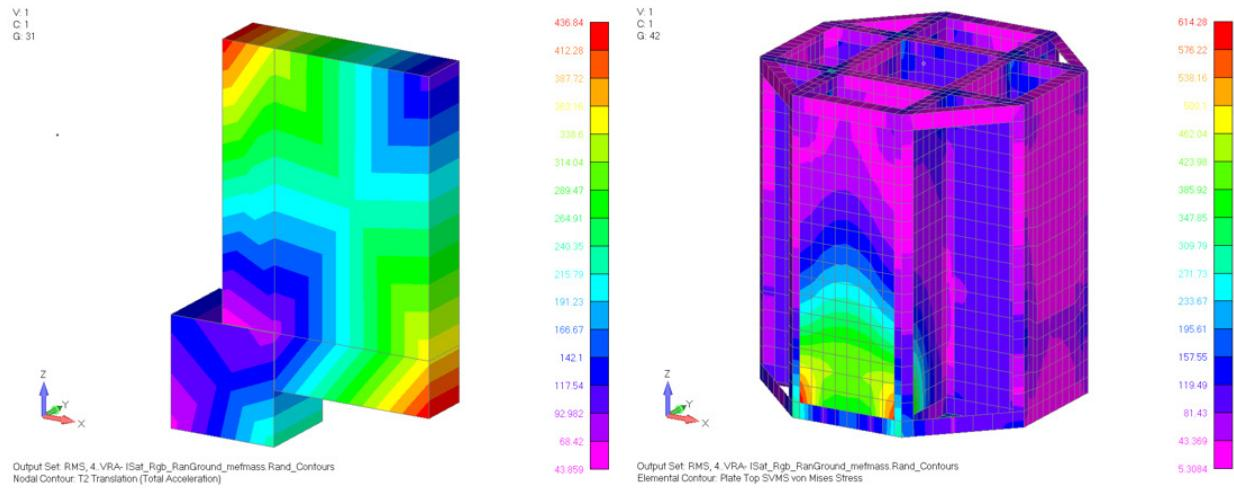
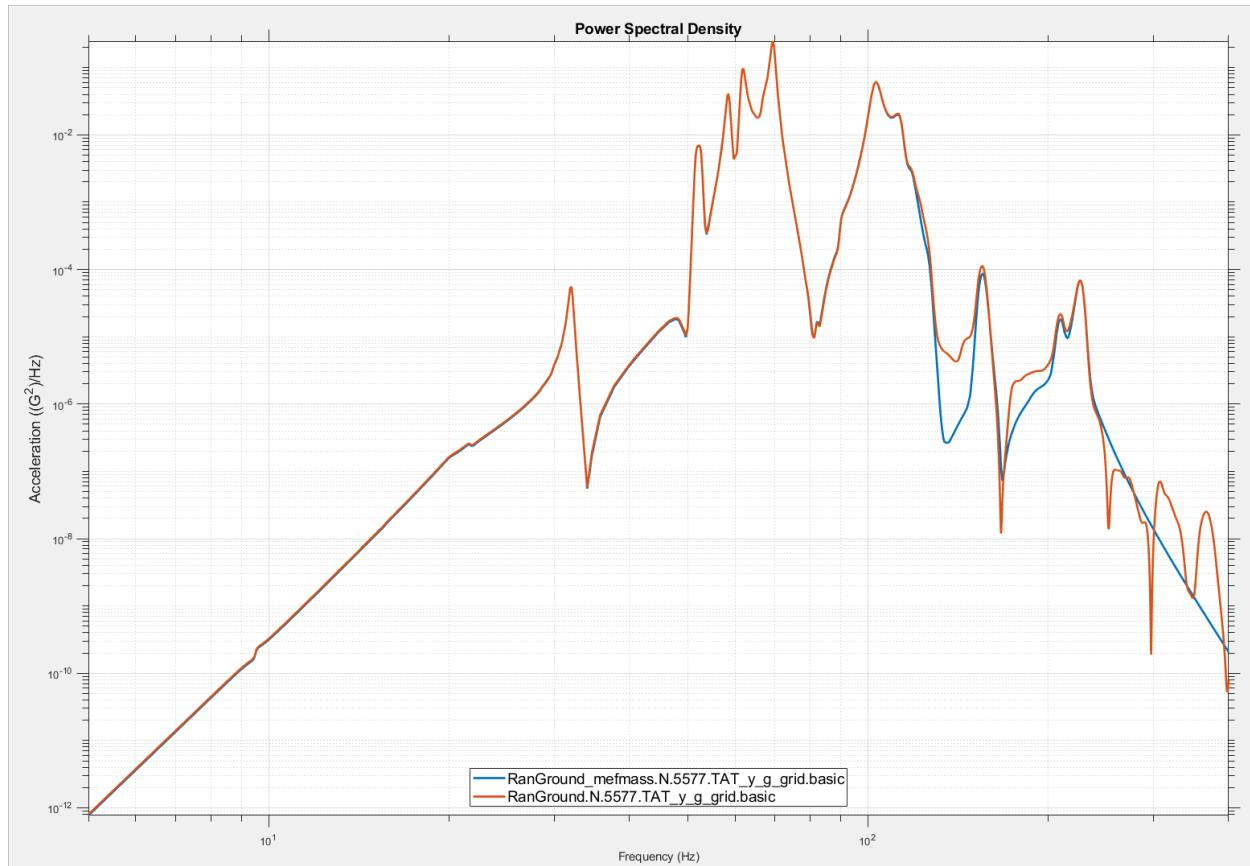
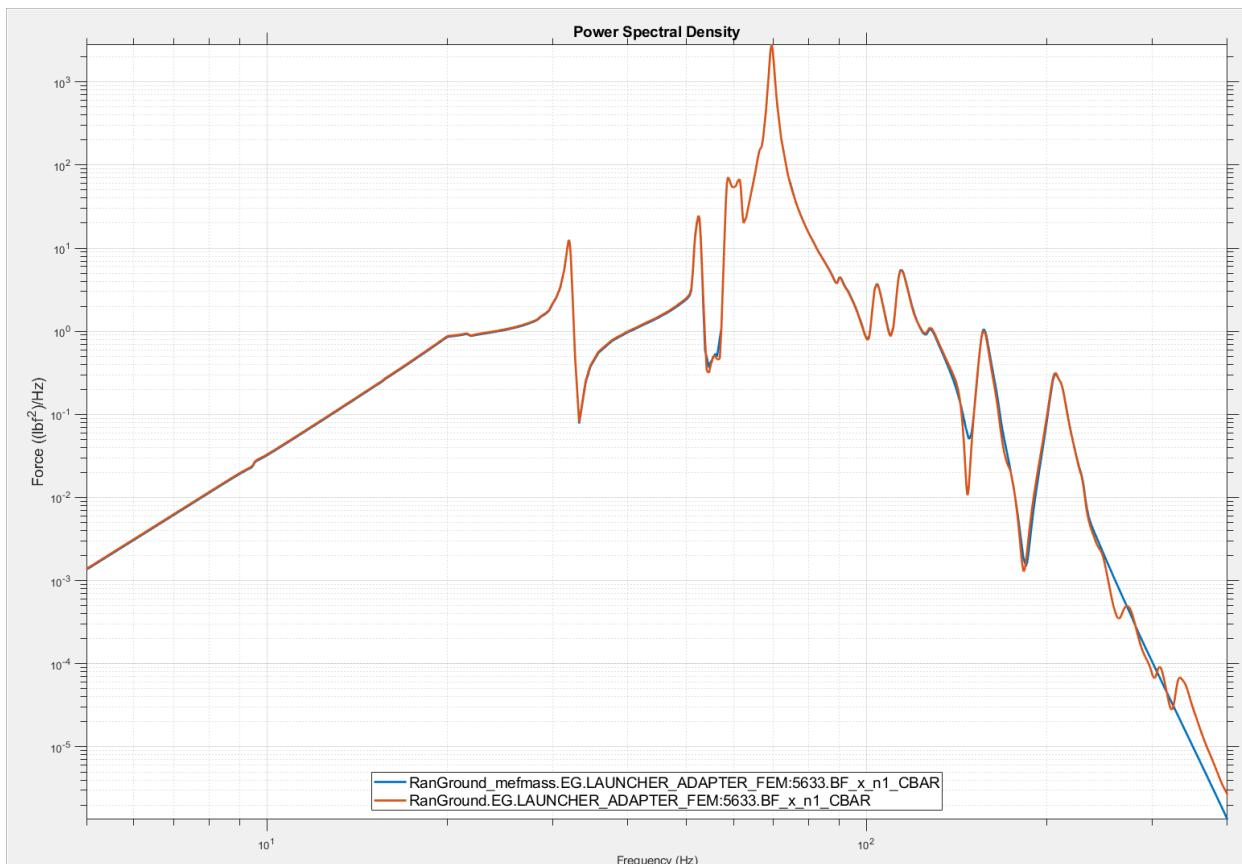

Figure 4-74. The mass-filtered contours are visually identical to those from the original event.
Figure 4-75. The node 5577 response shows differences at high frequencies, but RMS values match.
Figure 4-76. The adapter-leg axial force again shows differences only at high frequencies.
4. Solve the event. Here again, the contour results (Figure 4-74) are visually indistinguishable from those of the original event (Figure 4-47, Figure 4-48). The XY Plot results, however, do show some differences. We deactivated all the modes from 240 Hz to 400 Hz, so neither the Y-acceleration response PSD (Figure 4-75) nor the axial force response PSD (Figure 4-76) has any dynamic content in that range, while the original event does. However, the RMS values for the two cases match to 3 significant digits for both acceleration and axial force. In these plots, the orange curve is for the current (mass-filtered) event, and the blue curve is for the original (all-modes-active) event.